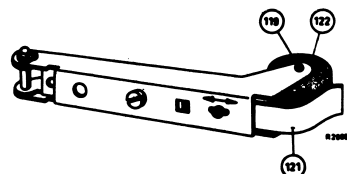

Fig 66
- Undo the shaft 119 of the pressure roller and remove same, see fig. 66.